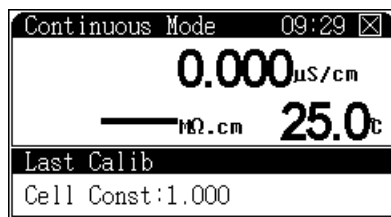

Figure 22 Measuring conductivity
- 3 Press **[Measure]** to start a measurement according to the selected mode. See Figure 22. The upper area of the screen shows the current measuring mode and system time. The central area of the screen shows conductivity, resistivity and temperature.